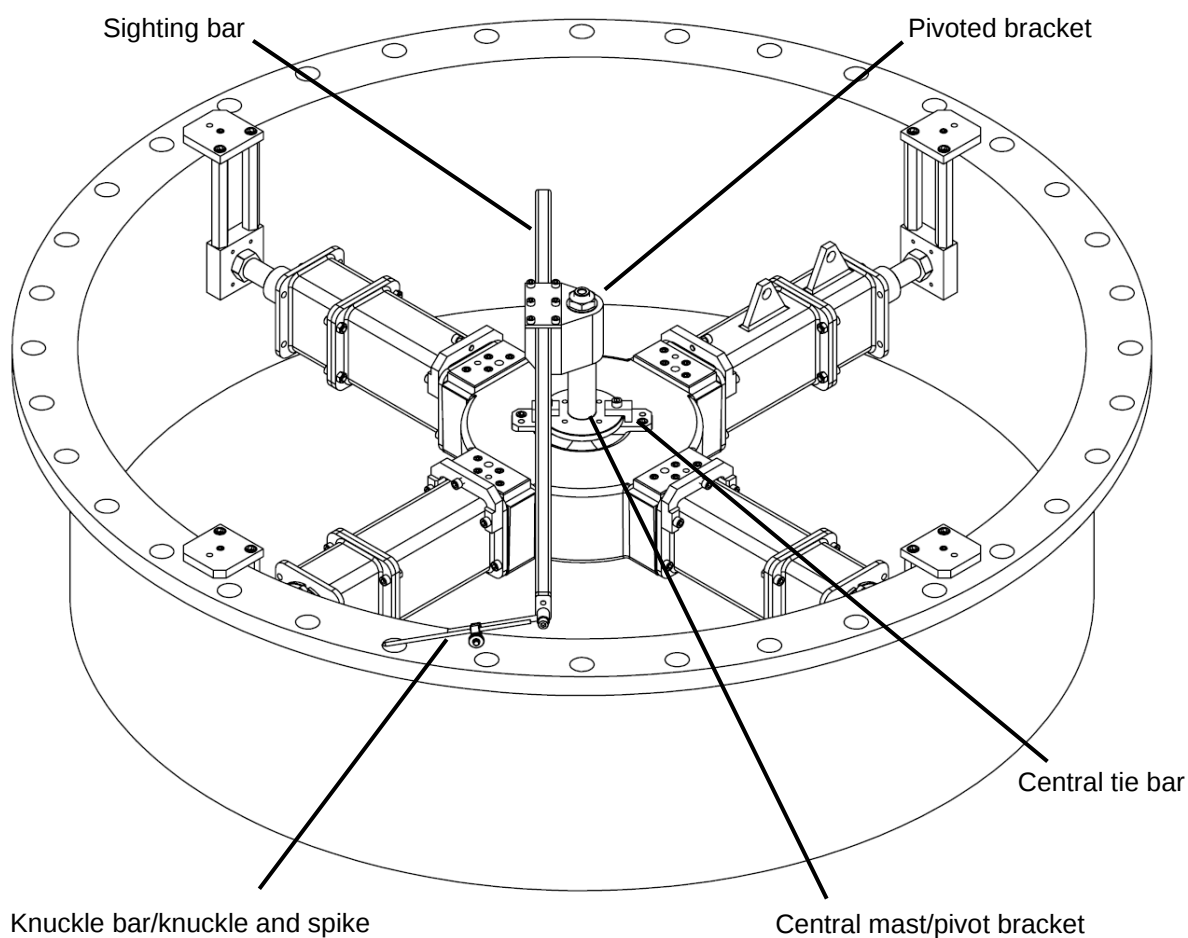

Fig. 14 Base centraliser fitted to spigot hole
2. Position the central mast into the spigot hole in the centre of the central tie bar (Fig. 14), secure with two screws and slide the sighting bar into the pivoted bracket. Adjust the position of the sighting bar to suit the flange diameter and clamp in position. Fit the knuckle bar, knuckle and spike to the outer end of the sighting bar.